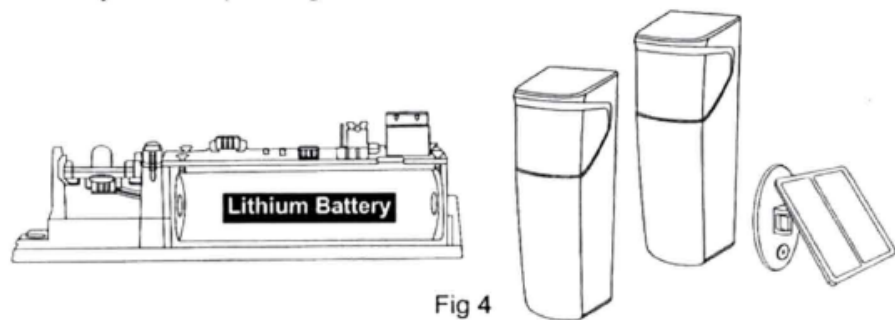

Fig 4
- 1** Infrared transmitter, orientable 220 degree, powered with rechargeable, built in battery 3.2V. Refer to Fig 4.